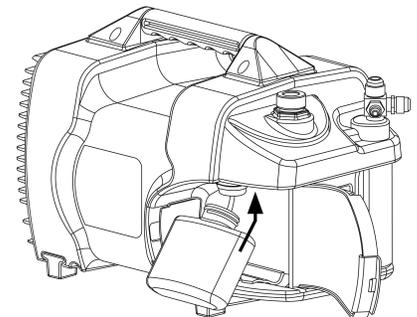

Fig. 3
6. Insert the top of the TEZOM first and make sure the oil suction tube is placed inside the cartridge. (Fig. 3)